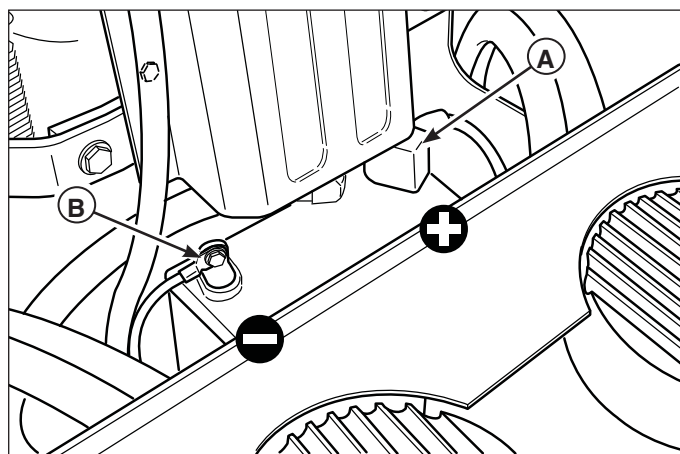

Figure 3. Connect Battery
1. Connect the red positive battery cable (B, Figure 3) to the positive battery post.
2. Connect the black negative battery cable (A) to the negative battery post.